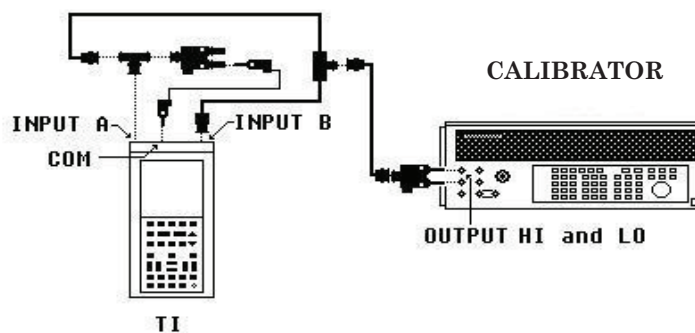

Figure 11. Trigger level.
- (26) Shift gain *1 mode by pressing pushbuttons sequence (a) through (d) below:
- (27) Shift gain /8 mode by pressing pushbuttons sequence (a) through (c) below:
- (28) Reset oscilloscope calibrator.
- (29) Connect equipment as shown in figure 11 below: